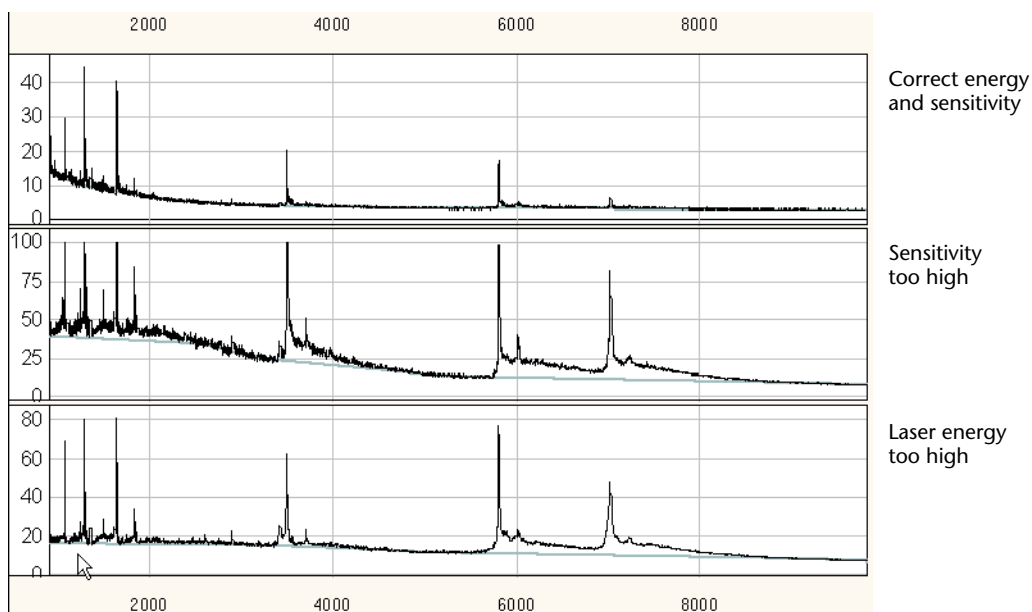

Figure 1-5: Sample spectra.
Review the spectra in Figure 1-5 for examples of what to look for when making adjustments.
- The top spectrum in Figure 1-5 represents appropriate laser energy and detector sensitivity settings. The peaks of interest (~3500 MW to ~7000 MW) are about 20% full scale, and the baseline noise is minimal.